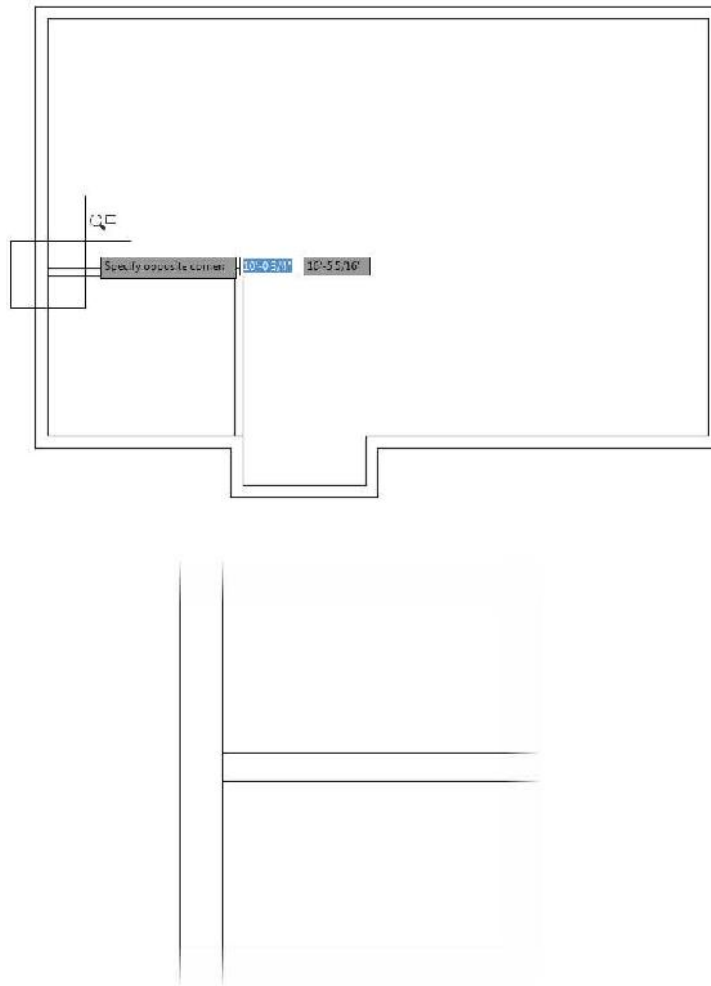

FIGURE 4.20: Using the Zoom Window option: positioning the rectangle (top) and the new view after the ZOOM command (bottom)
3. Move the cursor up and to the right, and notice that a rectangle with solid lines is being drawn. Keep moving the cursor up and to the right until the rectangle encloses the upper T-intersection (see the top of Figure 4.20).
When the rectangle fully encloses the T-intersection, click again. The view changes to a closer view of the intersection of the interior and exterior walls (see the bottom of Figure 4.20).